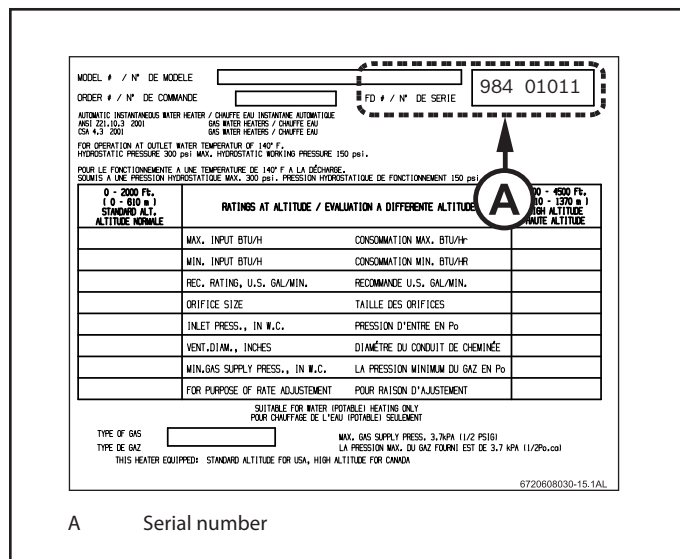
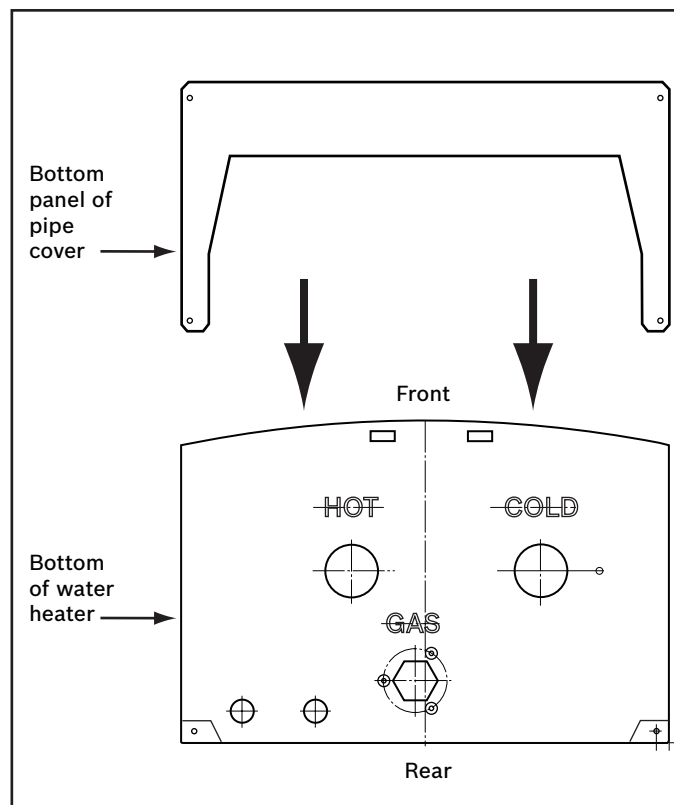

Fig. 2 Rating plate sticker with serial number (right side of heater)
Fig. 3 Using bottom panel as drill template
2. Water heaters listed in Section 1.2 with date codes FD984 and later are equipped with screw holes for the pipe cover. The FD code is the first 3 numbers in the appliance's serial number (see Fig.2, pos. A). For all earlier models, use the bottom panel of the pipe cover as a template to drill four $\frac{9}{64}$ " diameter holes into the bottom of the water heater. (See Fig. 3).